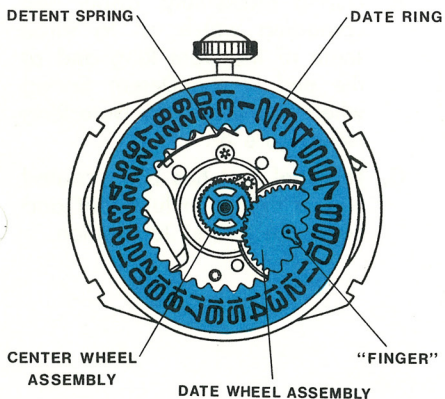

FIGURE 6
- C. Turn assembly over and lift off Dial Assembly. Note position of parts under Dial (see Figure 6). The clutch mechanism which permits setting the time difference between Hour Hands is contained in the Dial Assembly.
- C. Place Date Wheel Assembly on post with finger positioned as shown on Page 65.5, Figure 6.